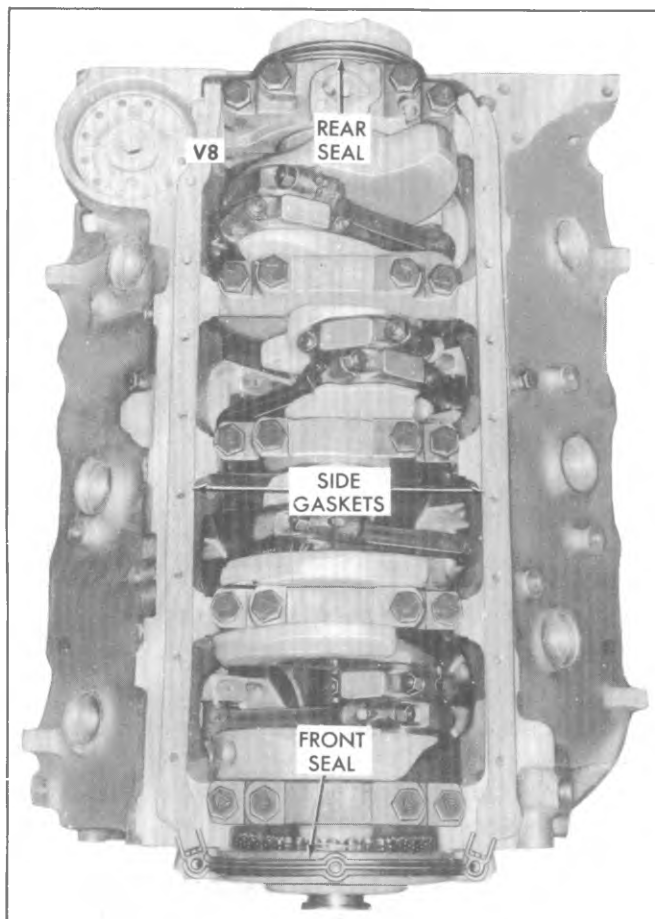

Fig. 6A2-48--Oil Pan Gaskets & Seals
2. Install new oil pan side gaskets on cylinder block using gasket sealer as a retainer. Install new oil pan rear seal in rear main bearing cap groove, with ends butting side gaskets. Install new oil pan front seal in groove in crankcase front cover with ends butting side gaskets (fig. 6A2-48).